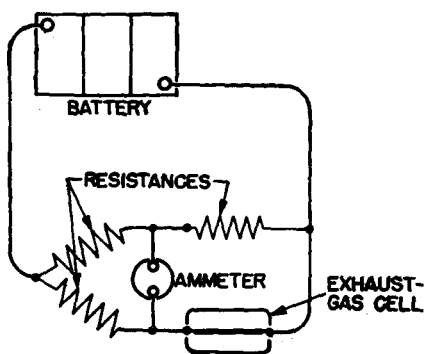

FIG. A-2. Schematic wiring diagram of a hot-wire-catalysis exhaust-gas analyzer.
2. Hot-wire catalysis In some respects, the hot-wire-catalysis exhaust-gas analyzer (Fig. A-2) is similar to the thermal-conductivity analyzer.